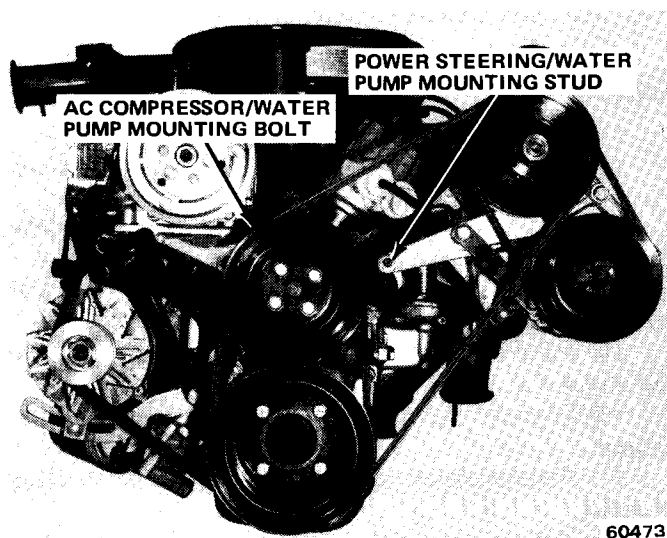

Fig. 2-14 Water Pump Mounting—V-8 Engine
- (6) If vehicle is equipped with air conditioning, install a double nut on air conditioning compressor bracket to water pump stud and remove stud (fig. 2-14).
- (8) If equipped with power steering, remove two nuts that attach power steering pump to rear half of pump mounting bracket.
- (9) Remove two bolts that attach front half of bracket to rear half.
- (10) Remove remaining upper bolt from inner air pump support brace, loosen lower bolt and drop brace away from power steering front bracket (fig. 2-14).
- (11) Remove front half of power steering bracket from water pump mounting stud.